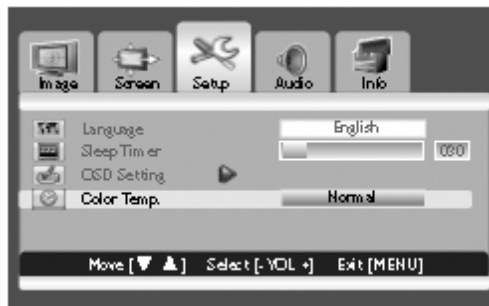

Figure 24. Color Temperature
3. Press the ▼ button to enter the selected menu group. Select Color Temp (refer to Figure 24).